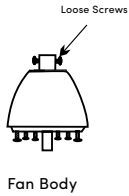

Figure 4
- 1** Loosen the two screws of the fan body. (Fig. 4)